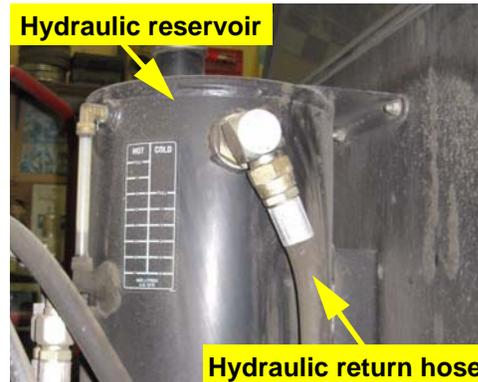

Figure 3c: Tank location
d. Locate the hydraulic reservoir mounted on the back side of the cab. Remove the hydraulic return hose on the side of the reservoir and install adapter fitting **H** and reducer fitting **I**. Reattach the return hose to the end of the run-tee fitting **H**. This run-tee will be used as the tank return for the automated steering block (Figures 3c and 3d).